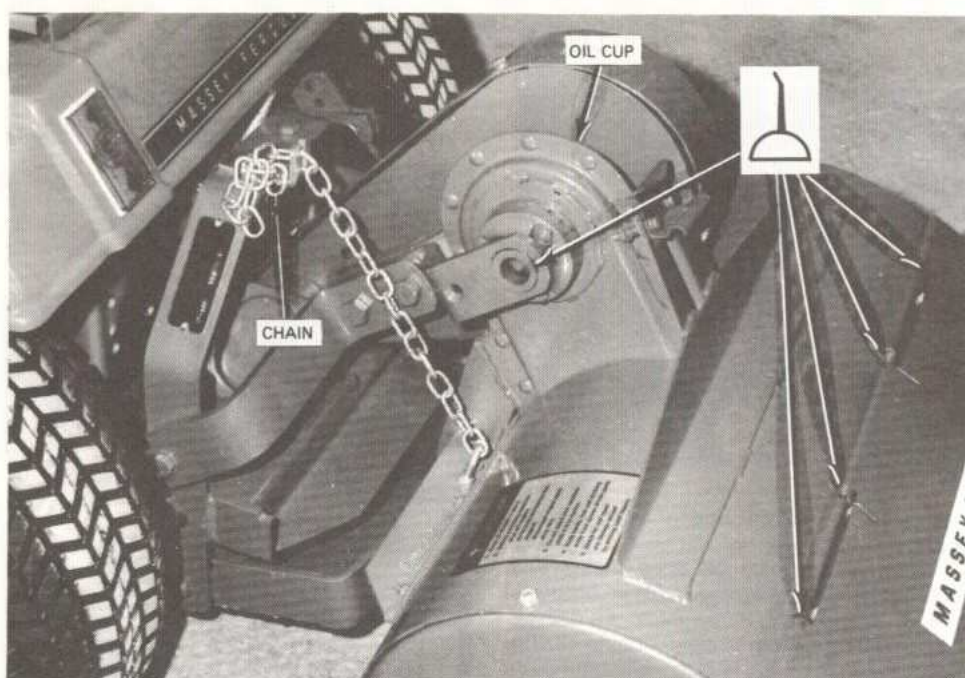
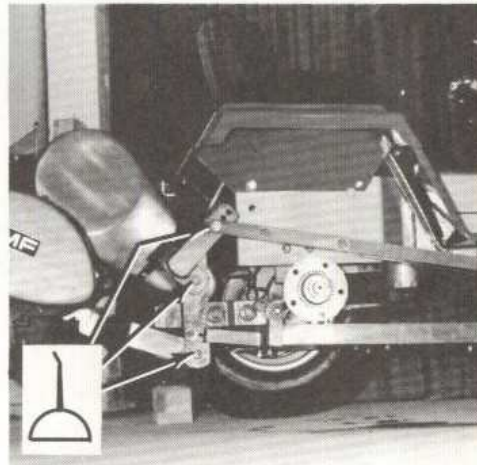

FIG. 29
FIG. 30
Raise Tiller all the way up. Hook chain, as shown in Fig. 29. Move hydraulic lift lever down to the center position. The weight of the Tiller will be carried by the lift chain, relieving strain on the hydraulic lift system.
1. Lubricate pivot points with a few drops of engine oil. See Fig. 30. Lubricate upper pivots also. See Fig. 29.
2. Apply a few drops of engine oil through oil cup, located on top of enclosed drive chain case, Fig. 29.
3. Oil leveller blade hinges, use engine oil, Fig. 29.